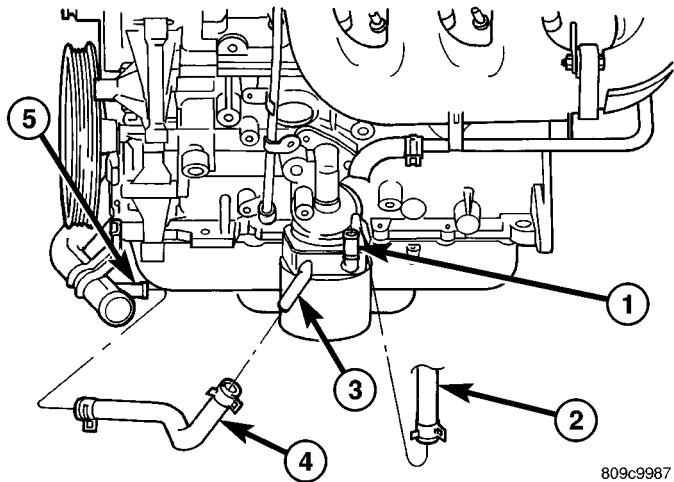
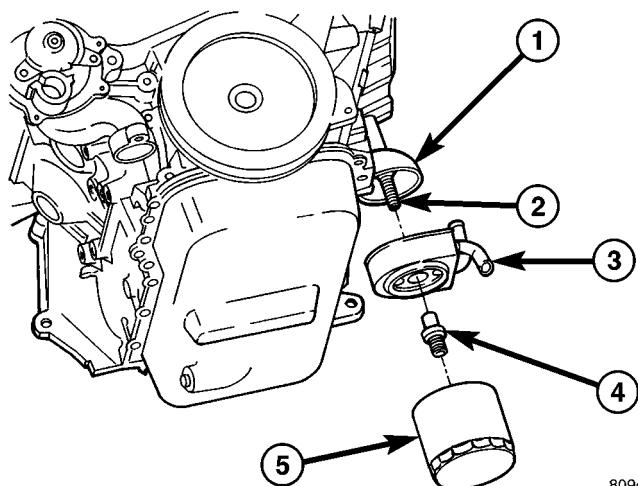

Fig. 98 Engine Oil Cooler Hoses
Fig. 99 Engine Oil Cooler - 3.3/3.8L (Heavy Duty Cooling)
An engine oil cooler is used on 3.3/3.8L engines (Heavy Duty Cooling Only) (Fig. 99). The cooler is a coolant-to-oil type and mounted between the oil filter and engine block.
- (1) Drain cooling system (Refer to 7 - COOLING - STANDARD PROCEDURE - COOLING SYSTEM DRAINING).
- (2) Disconnect oil cooler inlet and outlet hoses (Fig. 98).
- (3) Remove oil filter.
- (4) Remove oil cooler attachment fitting (Fig. 99).
- (5) Remove oil cooler.
- (1) Lubricate seal and position oil cooler to connector fitting on oil filter adapter (Fig. 99).
- (2) Install oil cooler attachment fitting and tighten to 27 N·m (20 ft. lbs.) (Fig. 99).
- (3) Install oil filter.
- (4) Connect oil cooler inlet and outlet hoses (Fig. 98).
- (5) Fill cooling system (Refer to 7 - COOLING - STANDARD PROCEDURE - COOLING SYSTEM FILLING).